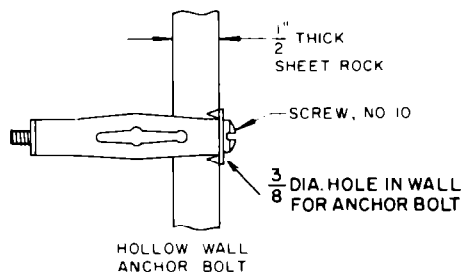

Figure 7
7. Insert four hollow wall anchor bolts into the four 3/8" dia. holes in the sheet rock. Anchor bolts are provided in installation pack. Rotate anchor bolts screws 5-10 revolutions to hold each anchor bolt in place. These will be completely tightened later. (See Figure 7).